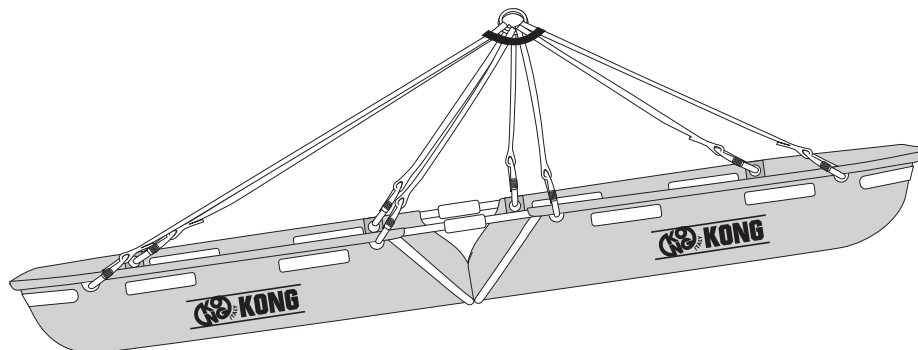

Fig.16
- a) Connect the suspension assembly to the corresponding side holes on the stretcher, using the eight connectors (Fig. 16),